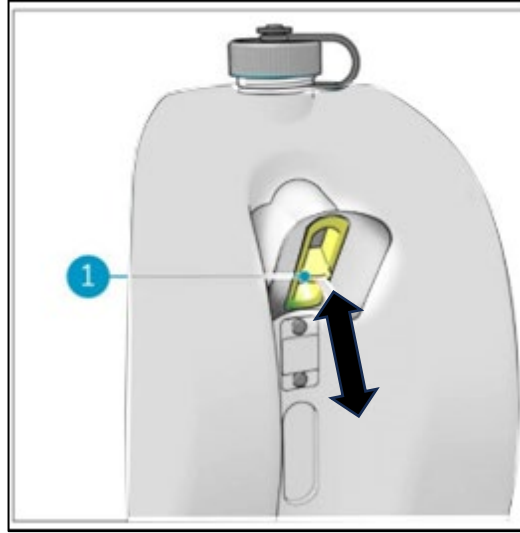

Figure 34
13. Place the ball float shutoff assembly back in the recovery tank, see Figure 34. Make sure that the support frame and rubber housing sit flush on the tank and seals it.